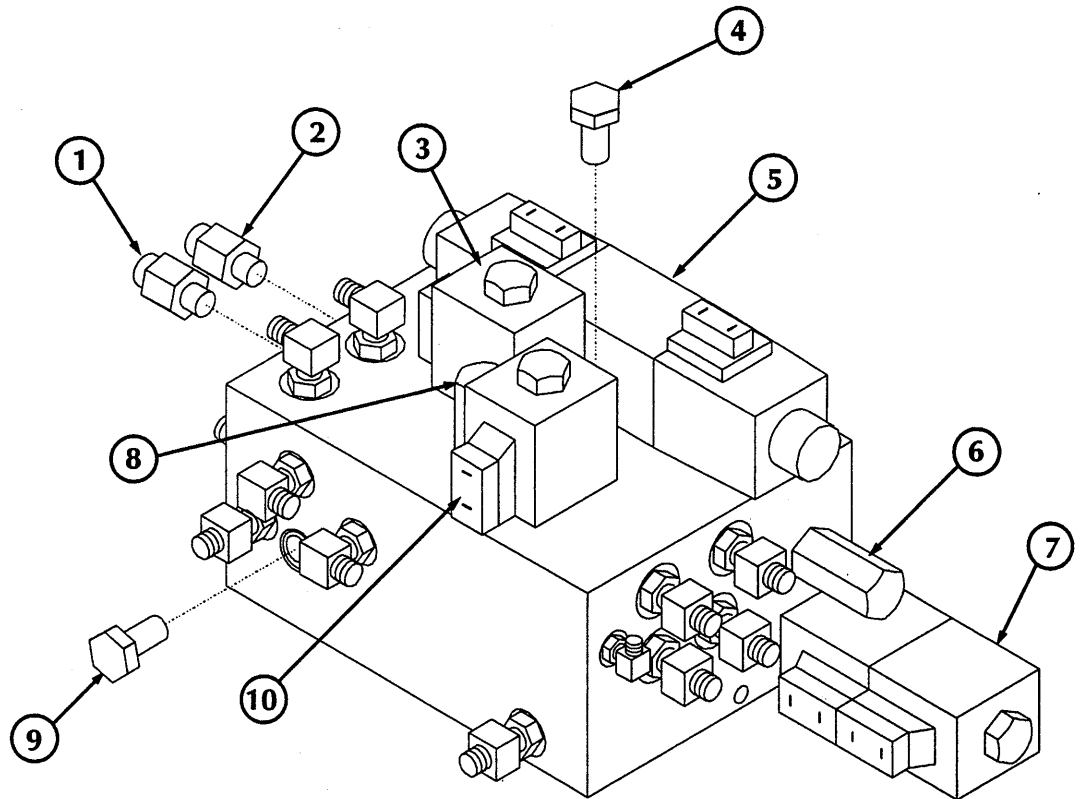

Figure 4-7: Hydraulic Manifold
4.7 Hydraulic Manifold (Figure 4-7)
NOTE: Mark all components as they are removed so as not to confuse their location during assembly. Refer to Figure 4-7 often to aid in disassembly and assembly.